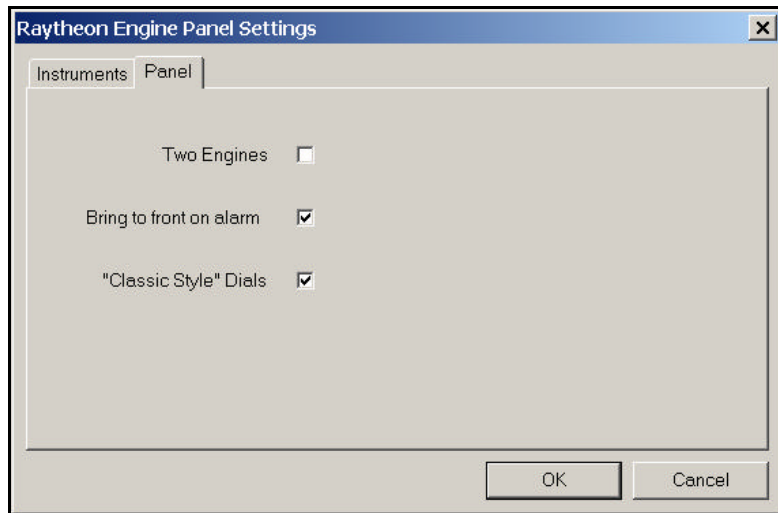

Figure 5-26. Engine Panel Setting Screen Showing Panel Tab
5. Click the **Panel** tab. As shown in Figure 5-26, the checkboxes on the Panel tab allow you to: